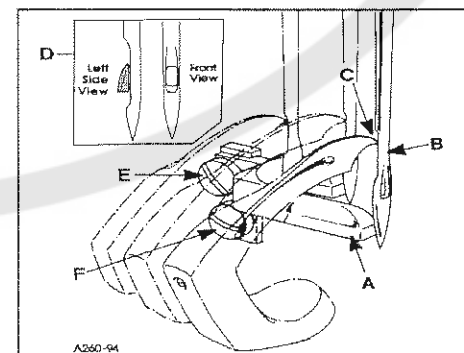
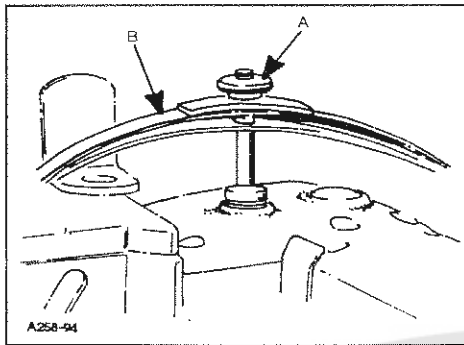
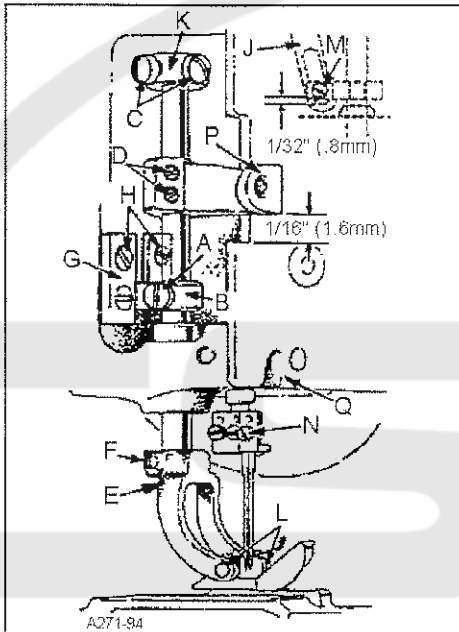

FIG. 13
FIG. 14
FIG. 15
Set the rear needle guard (A, Fig. 13) horizontally to touch and possibly deflect slightly to obtain solid guarding of all needles (B) when at its extreme forward position. If adjustment is necessary loosen screw (E) and move guard front to back as required. It should be set vertically as low as possible, yet have its guarding surface in contact with the needles until the points of the loopers (C), moving to the right, are even with the right side of the needles. If adjustment is necessary loosen screw (F) and move guard and holder up or down as required.
**NOTE:** When installing the needle it should be parallel with the eye in line of feed. If adjustment is necessary, loosen screw (N, Fig. 15) in needle head and rotate needle to attain adjustment (D, Fig. 13).
Remove presser bar leaf spring (B, Fig. 14) and nut (B). Loosen screw (A, Fig. 15) on presser bar guide (B). Loosen screws (C) in upper collar and screws (D) in needle lever thread pull-off lever. Slide presser bar upward high enough to slip on presser foot yoke (E) with foot attached and tighten screw (F) on flat of presser bar. Position foot so that the needle holes in the foot line up with the holes in the throat plate. Tighten screw (A)
Presser foot guide plates (G, Fig. 15) should be set so that entire presser foot and bar assembly has free movement up and down with no left to right movement.
With foot properly aligned on throat plate and presser bar guide (B, Fig. 15) securely fastened to presser bar, adjust both guide plates (G) to obtain above setting. Tighten four screws (H).
Reinstall presser bar spring (B, Fig. 14) and knob (A), with presser foot resting on throat plate.
The presser foot should be adjusted to be 1/8" (3.17mm) above the throat plate before the feed roller mechanism begins to rise. Loosen screw (A, Fig. 15) in presser bar lifter and guide (B), raise or lower guide as required to attain the specified point at which the feed roller begins to rise. Retighten screw (A) and maintain needle settings.
NOTE: There should be a minimum 1/32" (0.8mm) clearance between screw (M, Fig. 15) and the bottom of the slot in link (J).
Regulate the pressure on the presser foot by turning the presser spring regulating knob (A, Fig. 14) located on top of pressure foot spring (B).
To remove just the presser foot, remove screws (L, Fig. 15) and replace foot, retighten screws (L).